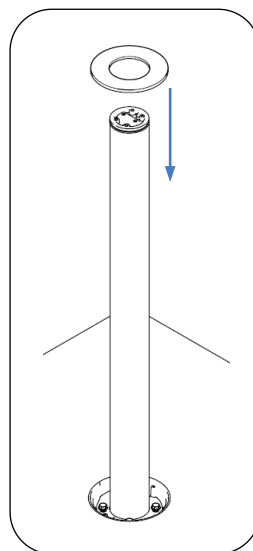

Fig. 6 – Install cover plate
4. Install cover plate over pole. See Fig. 6. Ensure nut on cover plate is facing down.